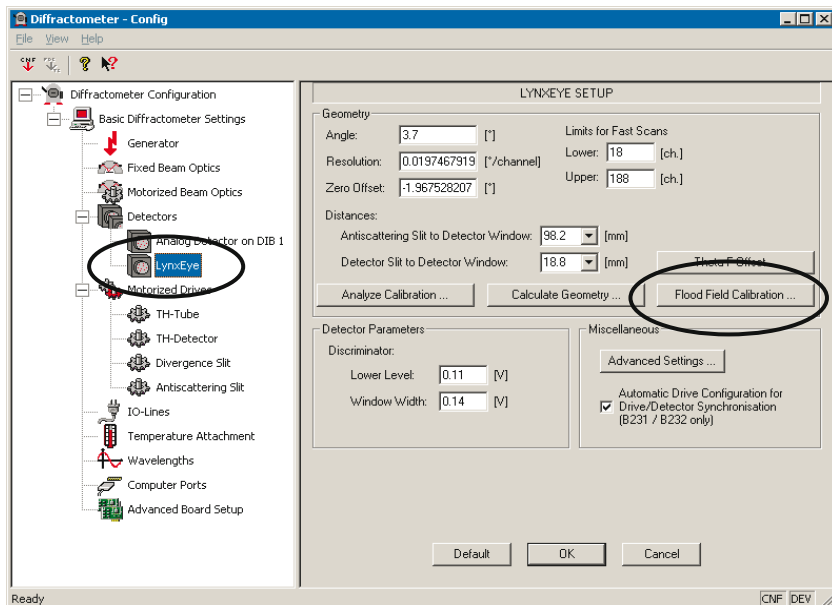
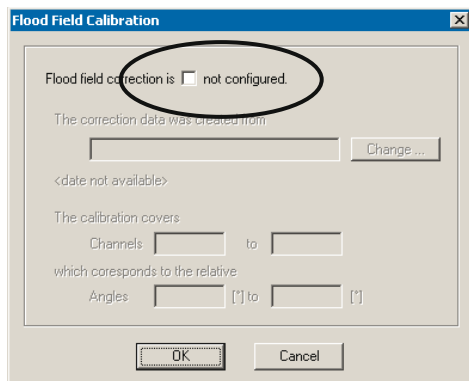
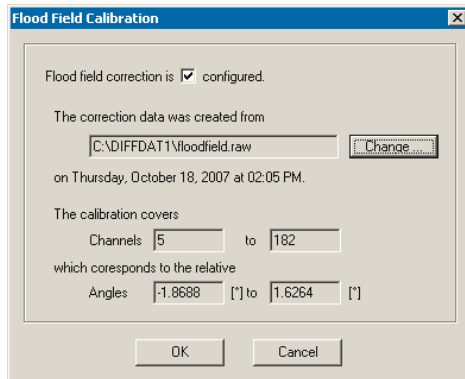

Figure 10.9 Access the flood field option in Config
Figure 10.10 Flood field correction disabled
Figure 10.11 Enable correction and import RAW-file
2. Make sure that the flood field correction is disabled (see Figure 10.9 and Figure 10.10)
8. After finishing the job go to the flood field correction option in CONFIG (see Figure 10.9), enable the flood field correction and import the “floodfield.raw” file (see Figure 10.11).